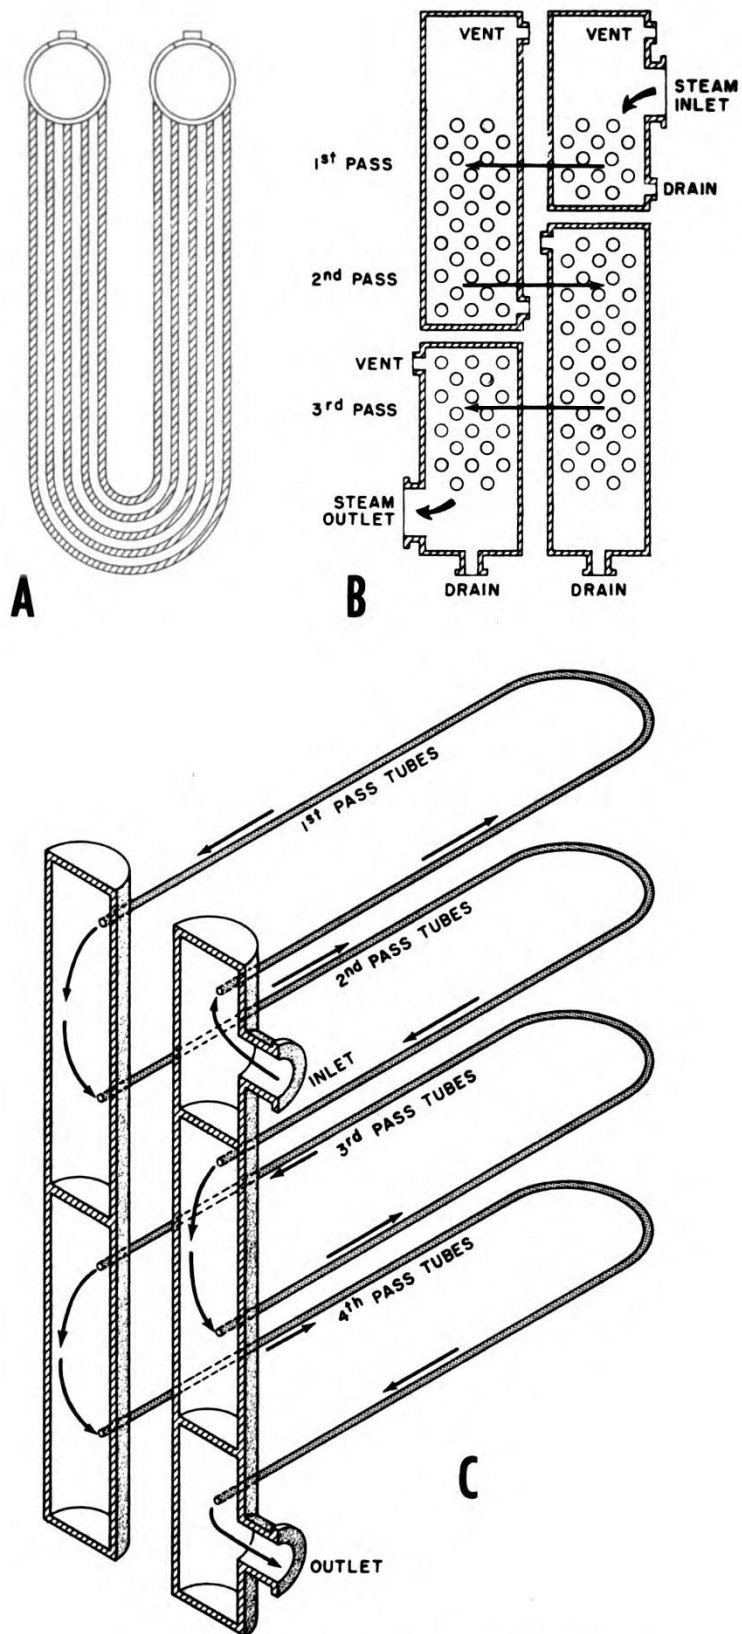

Figure 2-5.—Superheater arrangements.
ternally, as well as internally, so that there are more than two headers. Part (B) of figure 2-5, for example, shows a superheater in which four headers are arranged so that the steam makes three separate passes through the furnace. The arrows indicate the manner in which the steam passes back and forth between the headers. In each case, of course, it passes from one header to another by way of the U-shaped superheater tubes which connect the headers, as shown in part (A) of figure 2-5. Part (C) shows both headers and tubes, and illustrates the flow of steam through a four-pass superheater. In this arrangement there are two headers; one of them has one internal division plate, and the other has two.